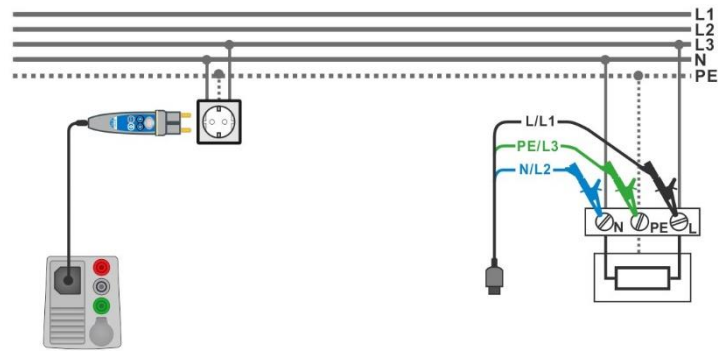

Figure 7.119: Connection of Plug commander and 3-wire test lead
- ▶ Connect 3-wire test lead or Plug commander to the object under test, see *Figure 7.119*.